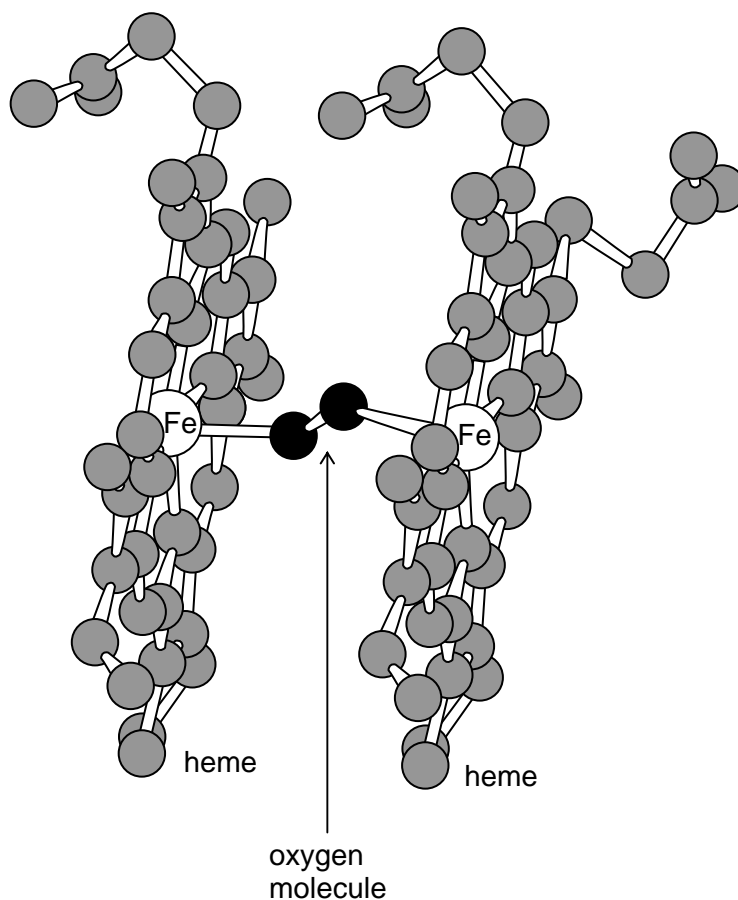
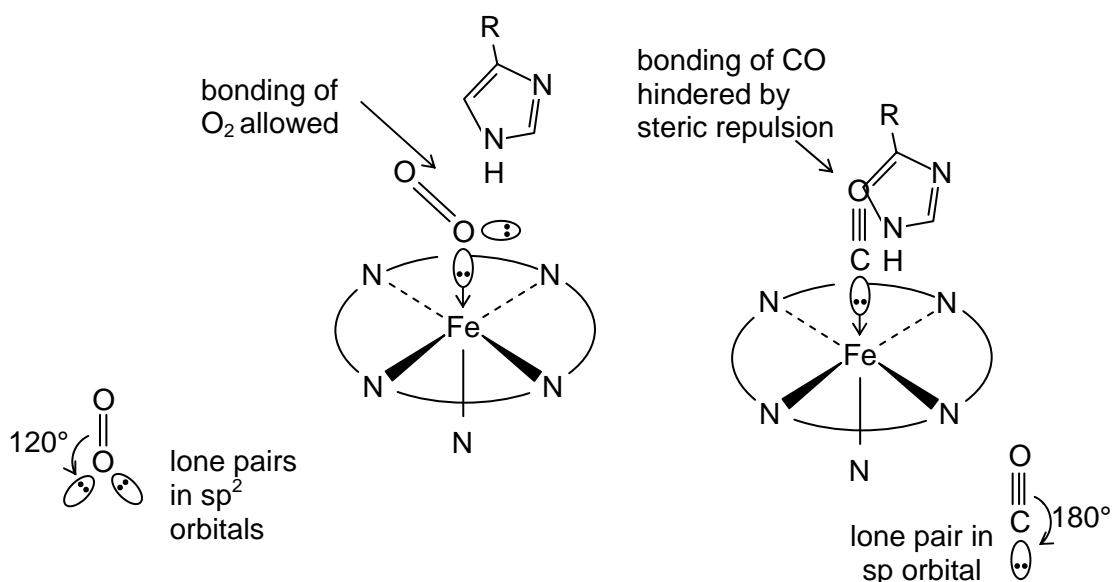

Figure 2.23 – two iron protoporphyrins with  $O_2$  sandwiched in between
Figure 2.26 – arrangement of molecules within the myoglobin complex
One problem that has fascinated chemists for some time is why, in the presence of oxygen, the  $Fe^{2+}$  ion does **not** become oxidised to  $Fe^{3+}$ . If iron(II) protoporphyrin is dissolved in water, and oxygen is bubbled through the solution, an almost immediate oxidation to  $Fe^{3+}$  occurs. A key intermediate in this oxidation is a complex of an oxygen molecule sandwiched between two haem groups (Figure 2.23).
This structure now explains the two observations described above. The fact that the haem group is on the inside of the molecule makes it impossible for two such groups to come together with an oxygen molecule bridge between them, as in Figure 2.23. In addition, the second histidine group, above the  $\text{Fe}^{2+}$  ion, forces the complexing molecule to bond with the  $\text{Fe}^{2+}$  ion at an angle. This favours  $\text{O}_2$ , but hinders the bonding of CO (see Figure 2.26).